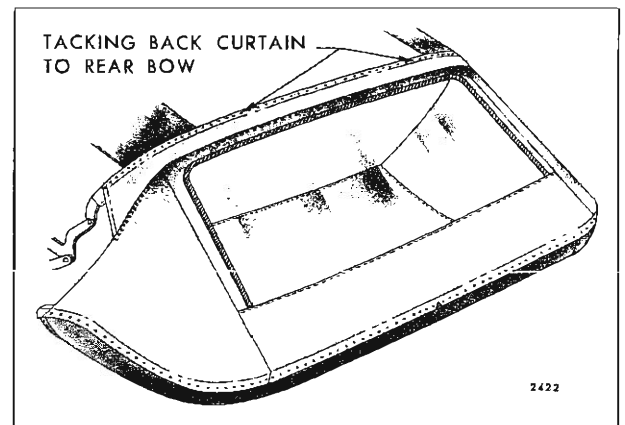

Fig. 13-37—Tacking Back Curtain
**IMPORTANT:** Tacks must be installed in a straight line in center of rear bow (Fig. 13-37). Tacks outboard of deck seams should not exceed 6 inches. Also, tacking distance outboard of deck seams on each side should be uniform. Pierce hole into top material and tacking strip at each outboard end of rear bow for wire-on binding clip escutcheons.